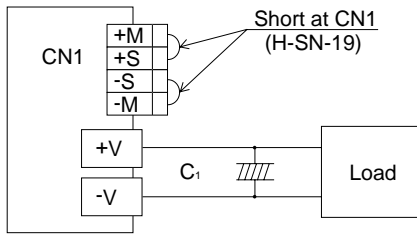

Fig.2.2 When not using remote sensing function
- Wiring method without using remote sensing is shown in Fig.2.2. When you do not use the remote sensing, connect between +S and +M and between -S and -M with CN1.